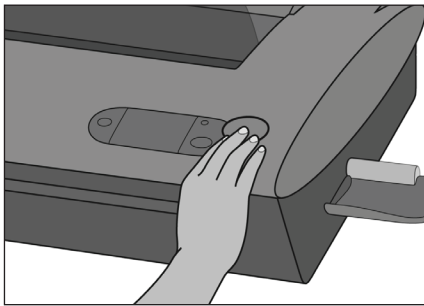

FIGURE 10
3. **Push Bind Button.** Press the green BIND button. The book clamps will close. (fig. 10)